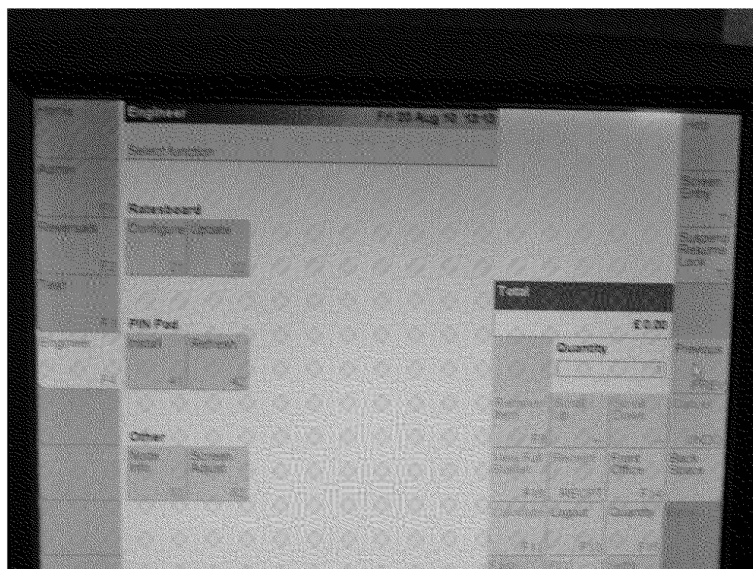

Figure 17
- 5) From the Desktop, the Branch Manager should touch the 'Back Office' icon. Then "Engineer" The screen below will now be displayed (see Figure 17 below)